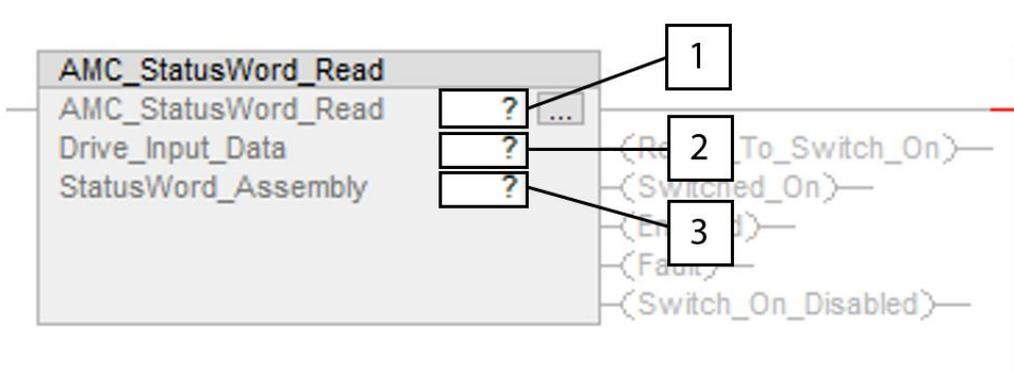
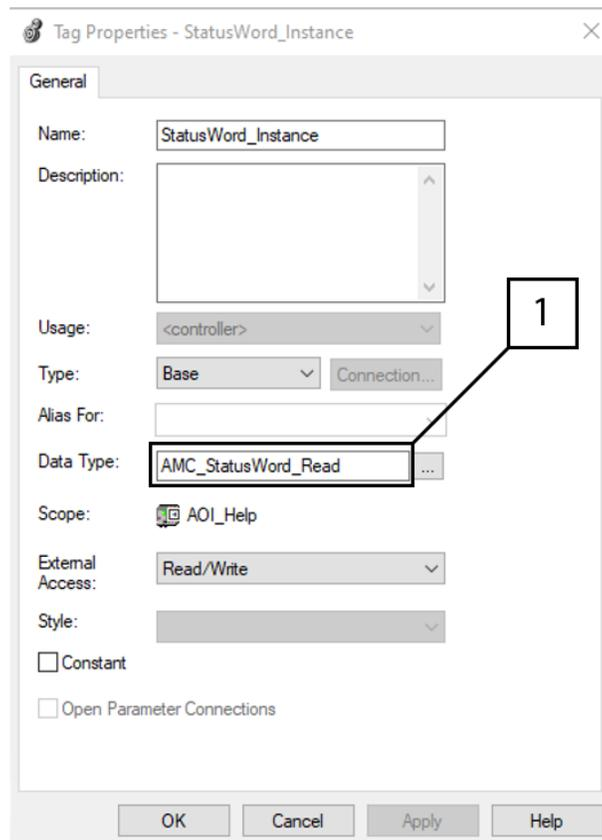
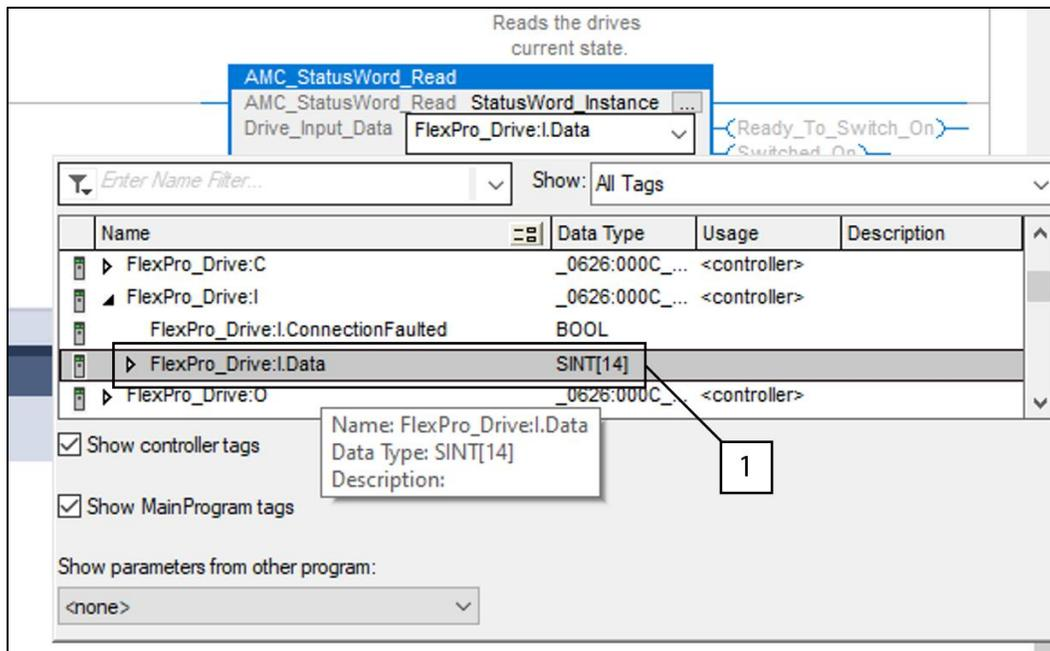
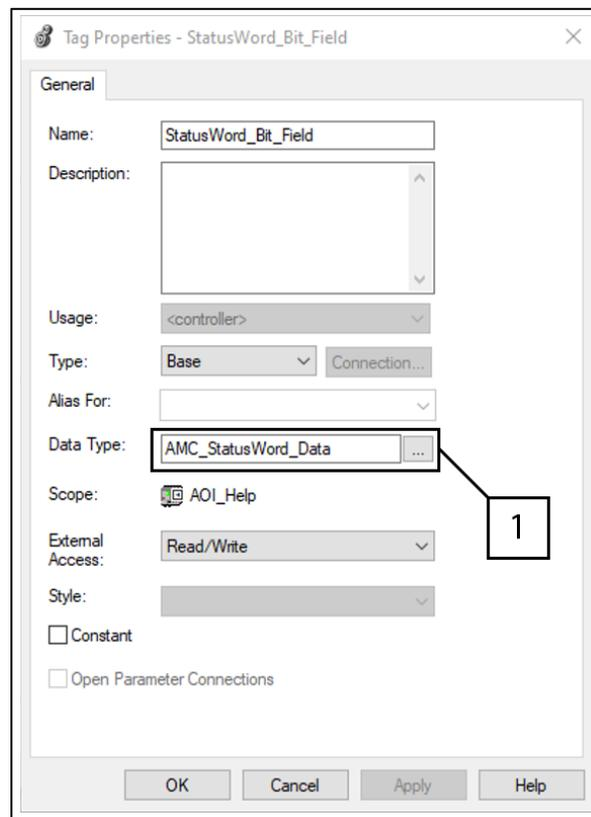

Figure 6 AMC_StatusWord_Read Screen
Figure 7 Tag Properties – StatusWord_Instance Screen
Figure 8 FlexPro_Drive:1.Data Screen
Figure 9 Tag Properties – StatusWord_Bit_Field Screen
The first parameter, **AMC_StatusWord_Read** (Figure 6), is the primary instance tag and holds input and output parameters.
- Right-click on the “?” (Figure 6 [1]) and create a new tag with any name. In this example, the data type will be named **AMC_StatusWord_Read** (Figure 7 [1]).
- Double-click the second “?” (Figure 6 [2]) and select **FlexPro_Drive:I.Data** (Figure 8-[1]), from the list of controller tags.
- Right-click the third "?" (Figure 6 [3]) and create a new tag. Select the data type and change it to **AMC_StatusWord_Data** (Figure 9 [1]).